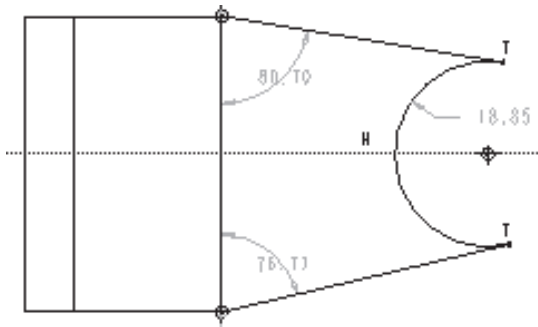

Figure B-4 Sketch after applying constraints
- Choose the **Make two entities tangent** button and select the top inclined line and the arc. Similarly, make the bottom inclined line tangent to the arc. The sketch after applying the constraints is shown in Figure B-4.